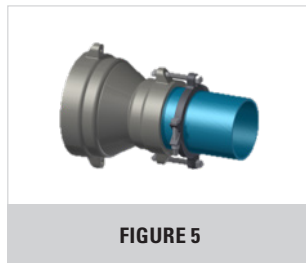

FIGURE 5
- Connect restrainer to fitting per Figure 5. Insert the 7" T-head bolt (bolts and hex nuts provided) through the fitting ear and tighten the hex nut up to the restrainer hand tight plus a half turn. Do not over tighten T-head bolts thus forcing the spigot further into the joint.